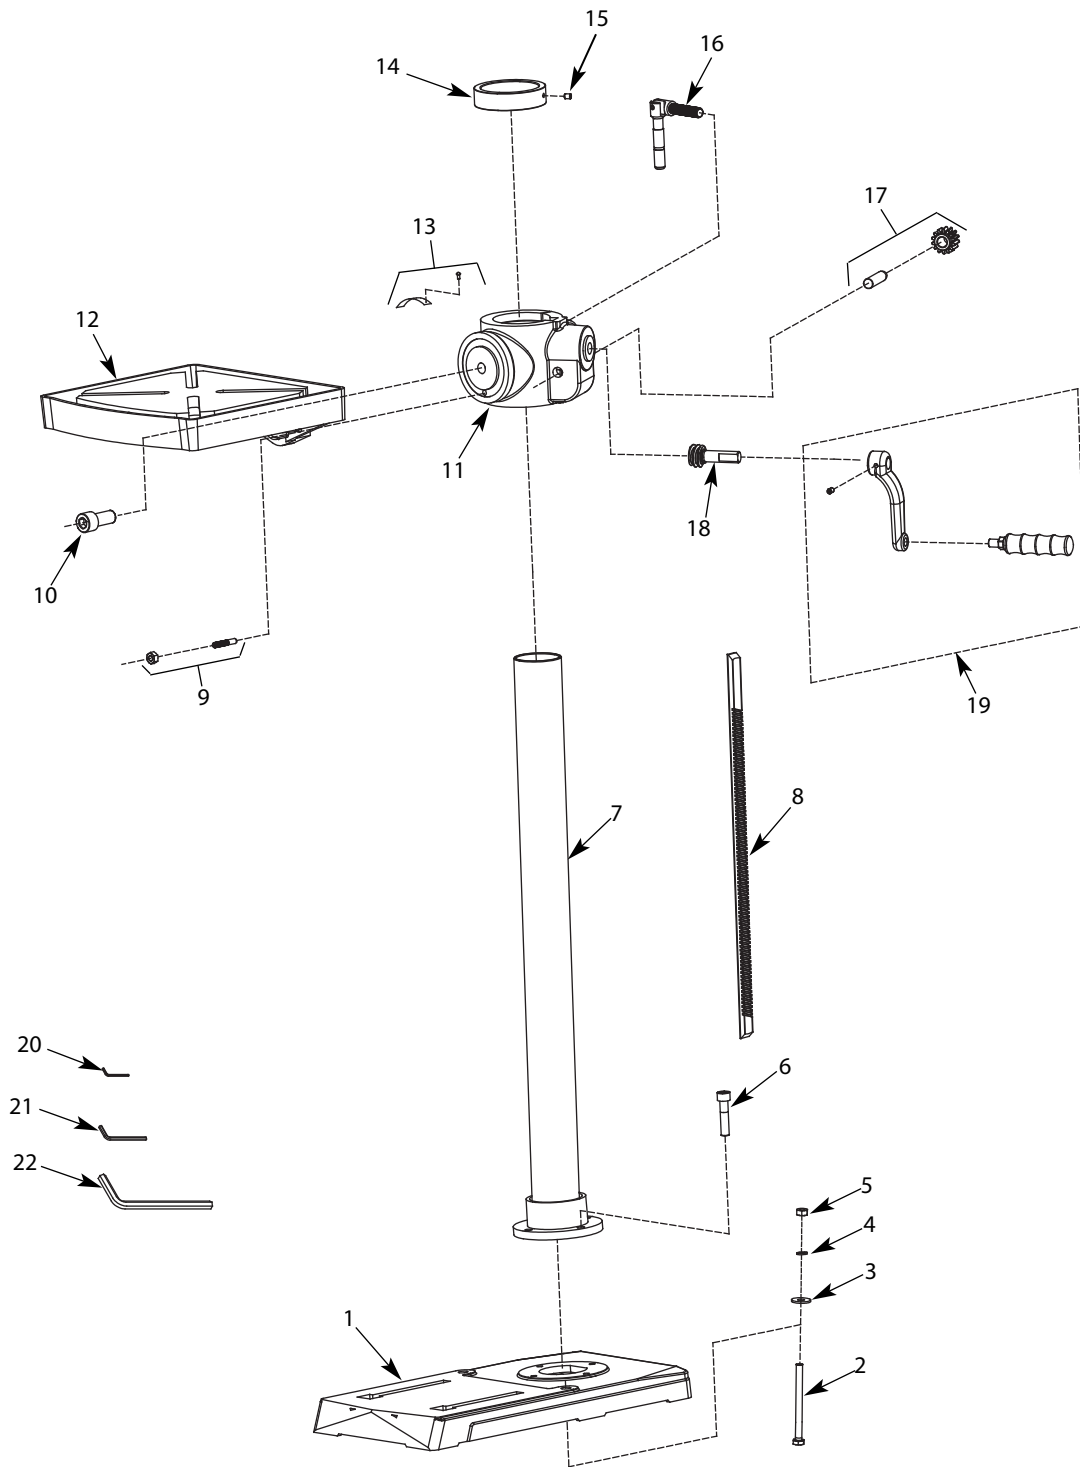

Figure 7 – Repair Parts Illustration for Base
Refer to Figure 7.
Refer to Figures 7 and 8.
- Apply lubricant to rack and pinion gear (Figure 7, Ref. Nos. 8 and 17) on column and table assembly.